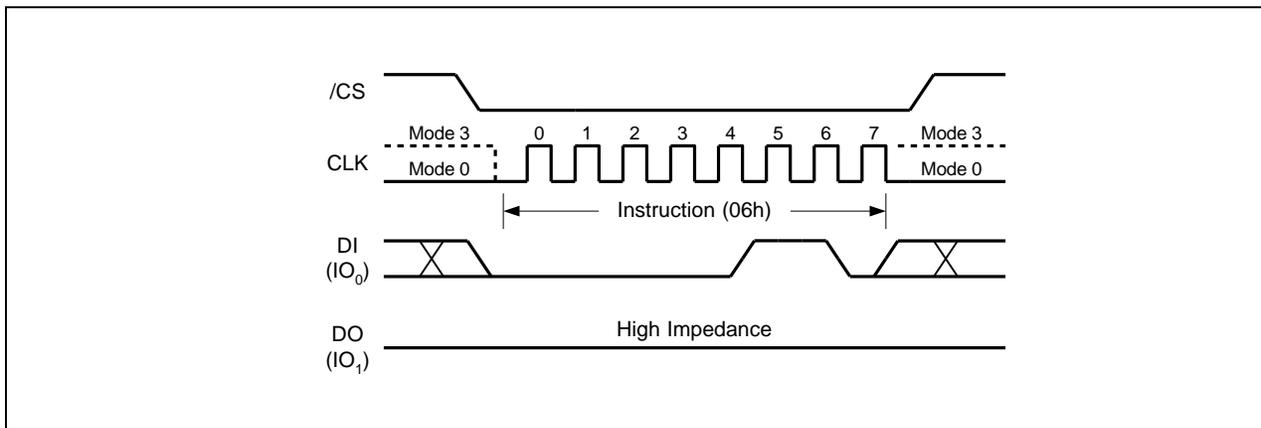

Figure 5. Write Enable Instruction for SPI Mode
The Write Enable instruction (Figure 5) sets the Write Enable Latch (WEL) bit in the Status Register to a 1. The WEL bit must be set prior to every Page Program, Quad Page Program, Sector Erase, Block Erase, Chip Erase, Write Status Register and Erase/Program Security Registers instruction. The Write Enable instruction is entered by driving $\overline{\text{CS}}$ low, shifting the instruction code “06h” into the Data Input (DI) pin on the rising edge of CLK, and then driving $\overline{\text{CS}}$ high.